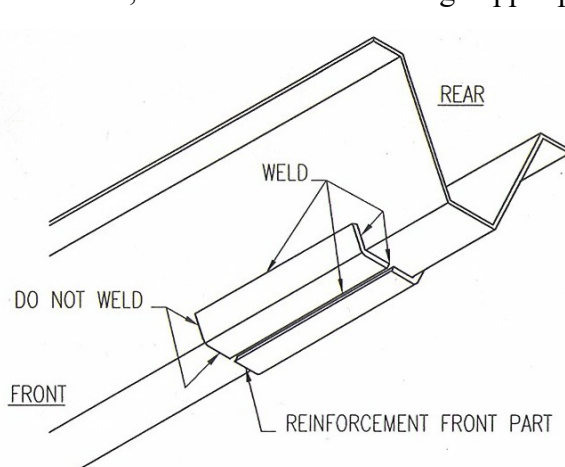

Figure 11 – Reinforcement welded
Locate the reinforcement to point (C) then weld the reinforcement on the long member as per fig. 11. **Never** weld the front part of reinforcement because it will weaken and it might break. The reinforcement should never be cut.